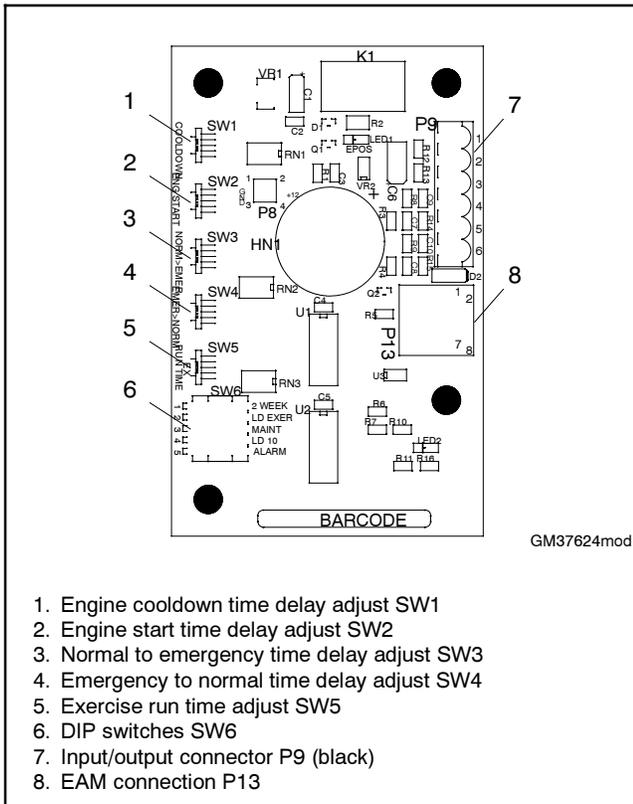

Figure 5-12 Accessory Board Component Locations
See Figure 5-7 for time delays. If the unit is equipped with the optional accessory board, check the settings for the engine start and engine cooldown time delays. See Figure 5-12 for the accessory board time delay switch locations.
- Check the timer switch and DIP switch settings on the accessory board. See Figure 5-12 and refer to the Transfer Switch Operation/Installation Manual, TP-6345, for instructions.